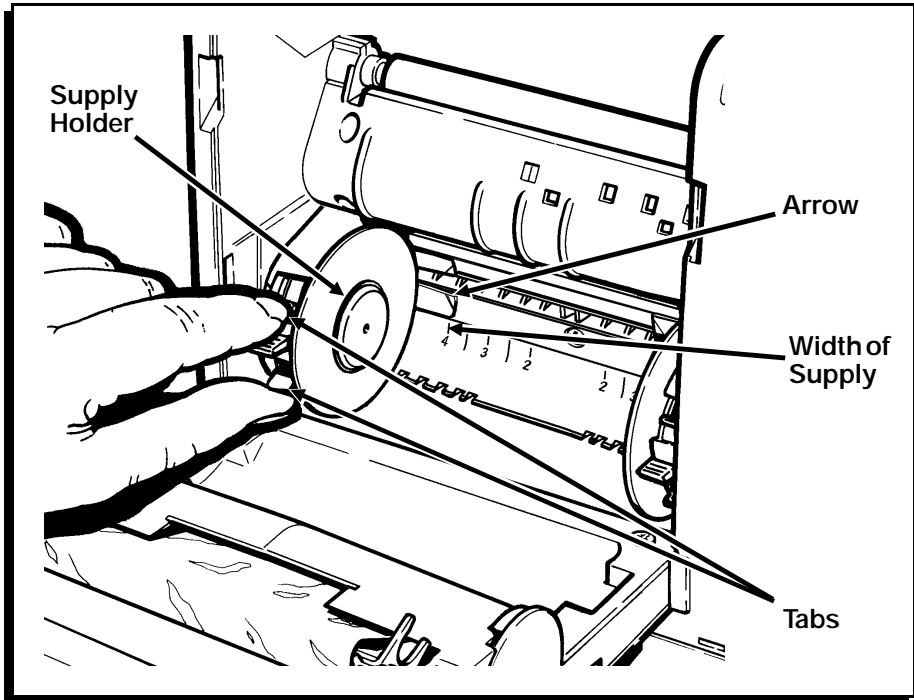

Figure 31
3. Squeeze the tabs and adjust both supply holders to the width of your supply. (Figure 31.)